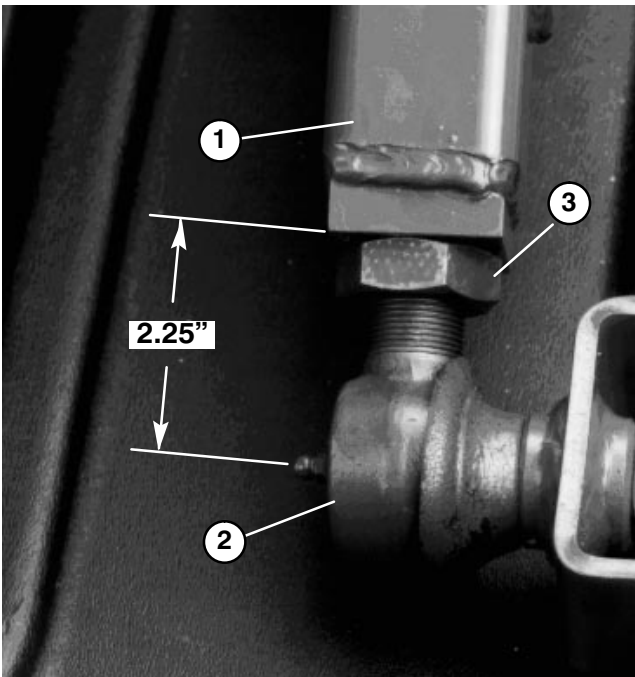

Figure 5
5. Tighten large jam nut securing ball joint to lift arm (Fig. 5). When tightening jam nut, hold ball joint straight to permit proper oscillation during raising and lowering of cutting unit.